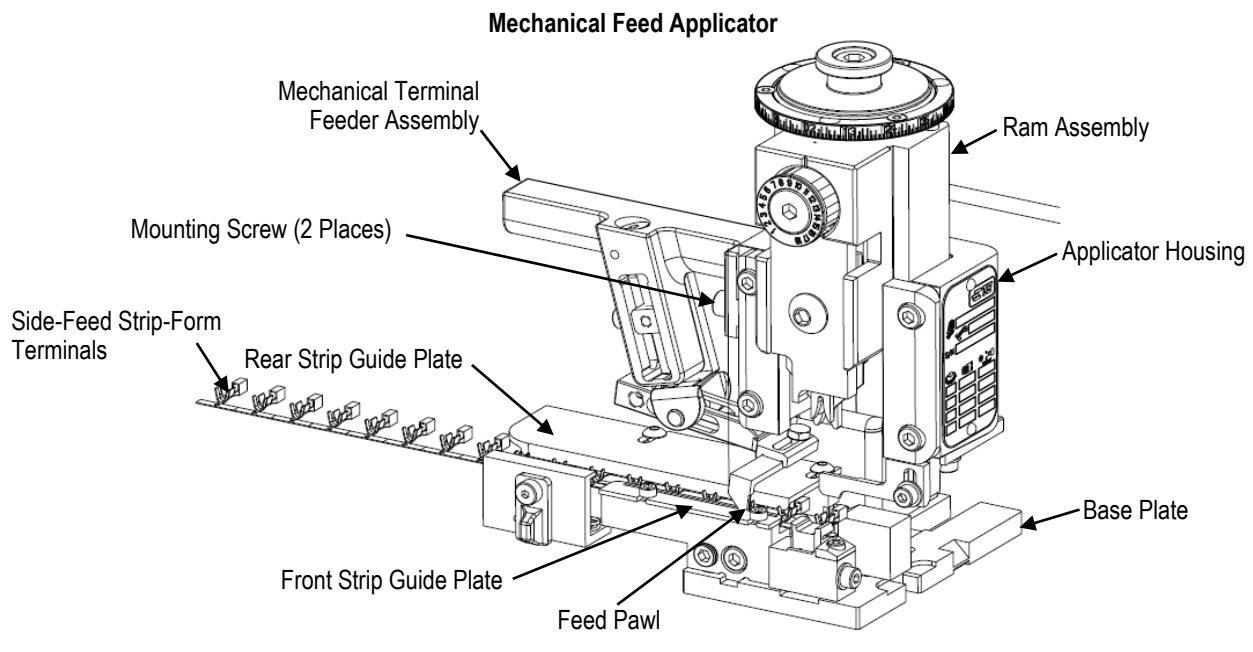

Figure 1
1. Main components of the mechanical and air feed applicators are identified in Figures 1 and 2, respectively.